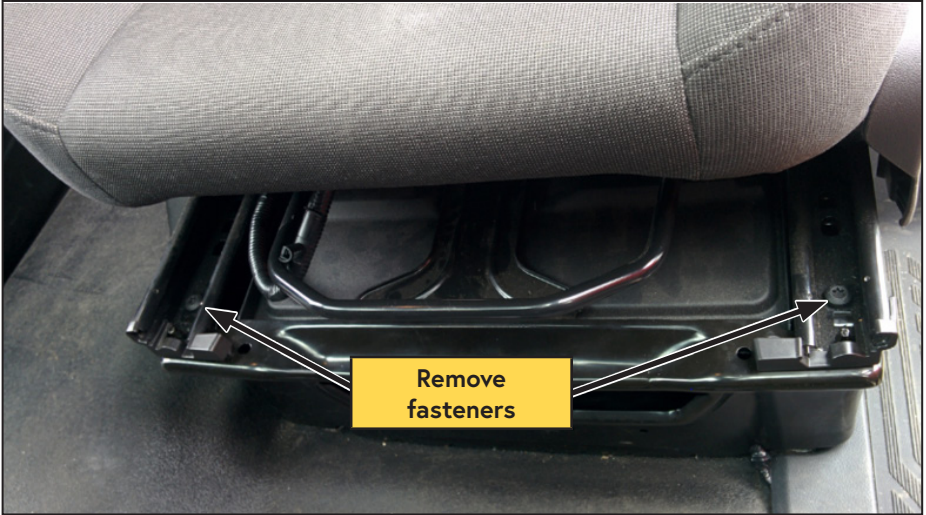

Figure 4 — Driver seat (front)
- Move the driver seat completely to the rear and remove the 2 front Torx fasteners (Figure 4).